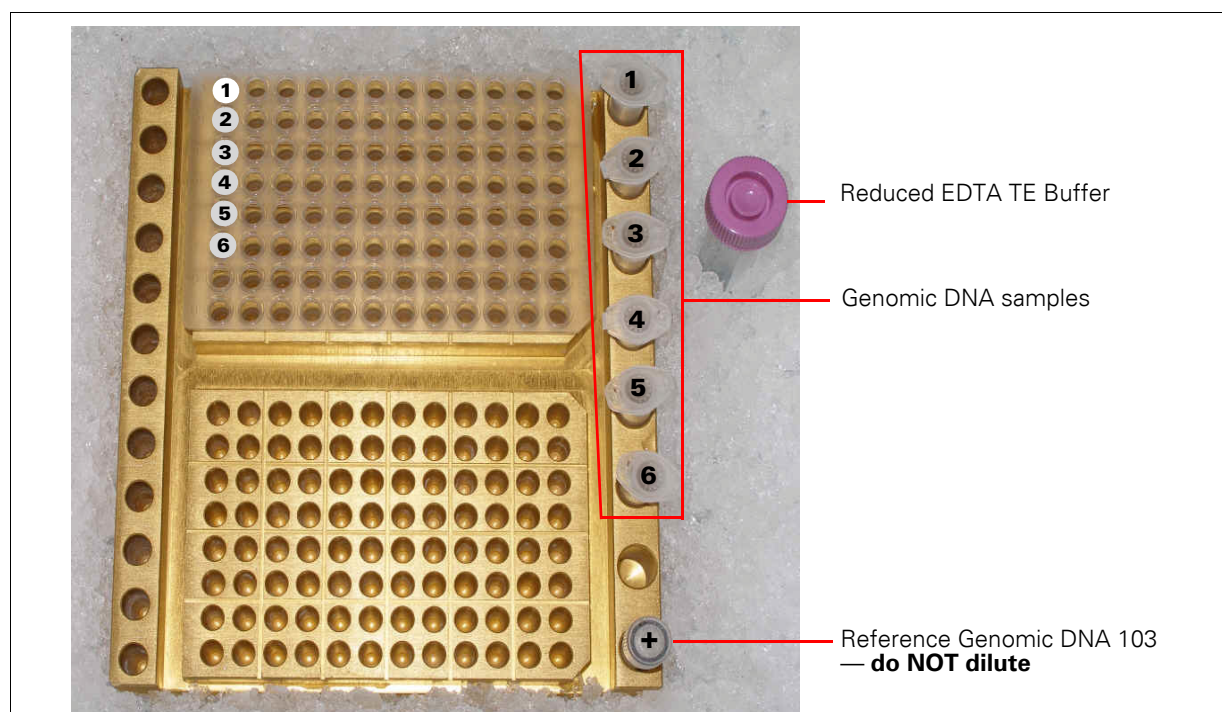

Figure 4.3 Diluting genomic DNA samples to 50 ng/μL
1. Place a double cooling chamber on ice (Figure 4.3).